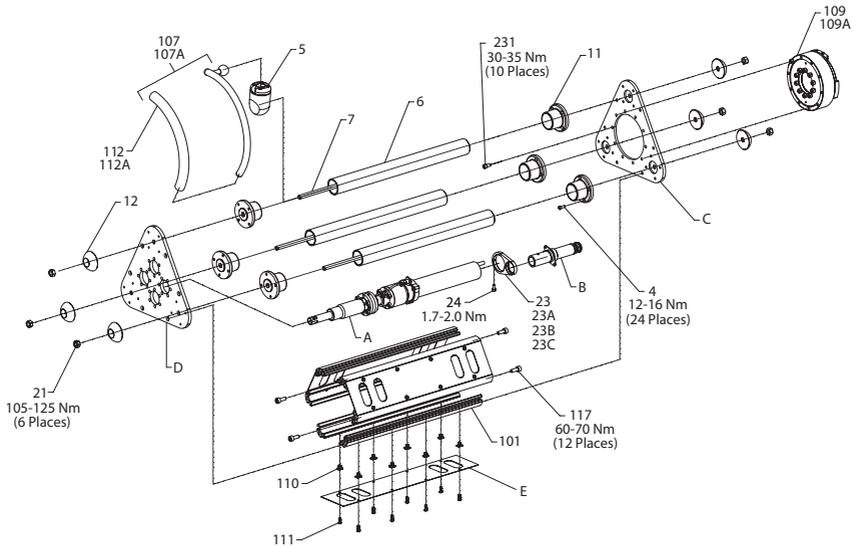

Figure 8
22. Assemble Tube Bracket Horizontal (11) with Back Plate (C) using fasteners Cap Head Screw (4), (apply serviceable loctite to fasteners) as shown in Figure 8.
23. Assemble Tube Bracket Horizontal (11) with Tool Mount Plate (D) using fasteners Cap Head Screw (4), (apply serviceable loctite to fasteners) as in Figure 8.
24. Insert Tubes (6) into each Tube Bracket Horizontal (11) of sub assembly in step 22.
25. Assemble Tube Holder Assembly (5) over upper Tube (6) and locate at appropriate position (refer Figure 8).
26. Mount sub assembly in step 23 over free ends of Tubes (6), aligning all Tube Bracket Horizontal (11) with Tube (6).
27. Insert Tierod (7) through each Tube (6) and secure the sub assembly in step 26 with Spherical Washer (12) and Nut (21) on either side.
29. Assemble sub assembly in step 28 with Tube Holder Assembly (5) as per instructions given under **Tube Holder Assembly**. Lock assembly at desired position and orientation.
30. Mount sub assembly created from step 22 to step 29 over sub assembly created from step 4 to step 21 using fasteners Cap Head Screw (231) provided with Small Bearing Assembly/Large Bearing Assembly (109/109A).
31. Fasten the Tool (A) onto Tool Mounting Plate (D), (for tool mounting instructions refer manuals of respective tool).
32. Mount Electronics Pod (B) onto Tool (A) as per instructions given under **Pod Holder Assembly**. Orient the electronics pod in a cyclic fashion, as to occupy minimum space.
33. Ensure the cables from the Tool (A) being routed from the central hole in sub assembly Small Bearing Assembly/Large Bearing Assembly (109/109A).
34. Route the cables from Tool (A) through Cable Tray (16) and secure them in place using cable ties.
35. If cover is used, place the flat face of Corner Spacer (101) on either side of the Sheet Metal Cover (E), (cover can be used only for 3 tube and 4 tube configurations).
36. Secure Sheet Metal Cover (E) to Corner Spacer (101) using screw Button Head Screw (111) and Spring Nut (110).
37. Place one each of sub assemblies in step 36 between a pair of tubes and secure the same with Back Plate (C) and Tool Mounting Plate (D) using fasteners Cap Head Screw (117), (refer Figure 8).